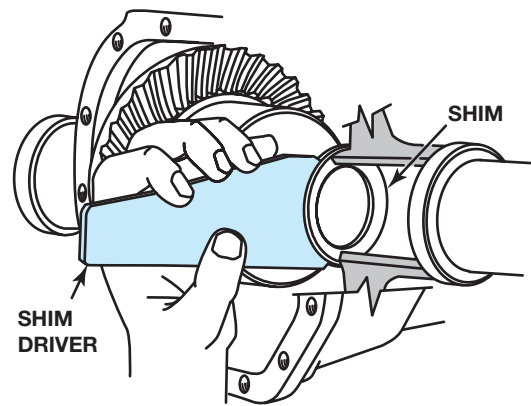

FIGURE 12-84 The last shim should be rather tight to install. It should be driven into place using either a soft hammer or special tool.
6. Install the selected shim. It will be necessary to use a soft hammer or a special tool to tap the second shim into place (Figure 12-84).